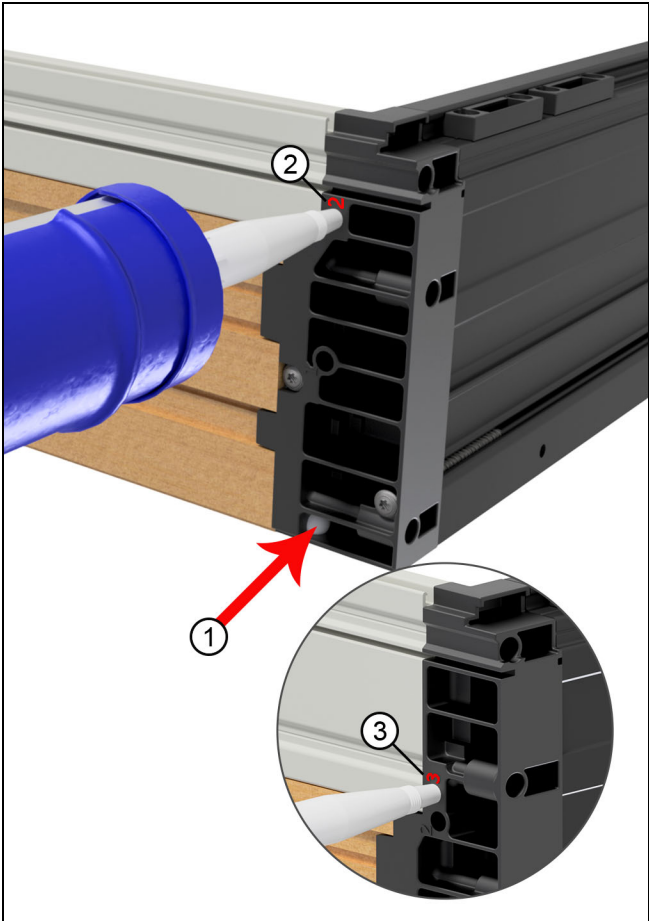

Figure 8
1. On 4-9/16" jambs, locate the injection hole on the side of the sill key labeled "2". Inject the provided sealant into the key until you see squeeze out in the inspection hole shown below. See Figure 8.
2. On 6-9/16" jambs, locate the injection hole on the side of the sill key labeled "3". Inject the provided sealant into the key until you see squeeze out in the inspection hole shown below. See Figure 8 (inset)